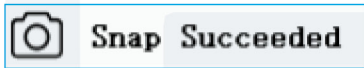

Figure 3-2
- The screen shows "Snap Succeeded", which means that the picture has been taken successfully. This is shown in Figure 3-2